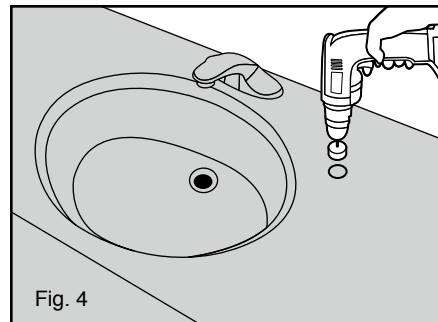

Fig. 4
5. Drill a 1" diameter hole in the marked location (see figure 4). Clean the area around the hole so it is free of debris.